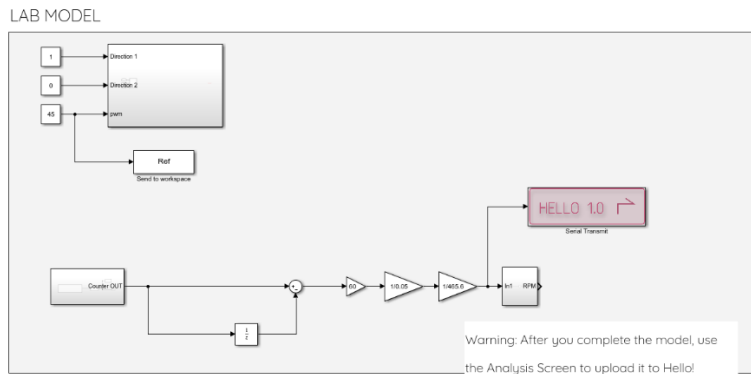
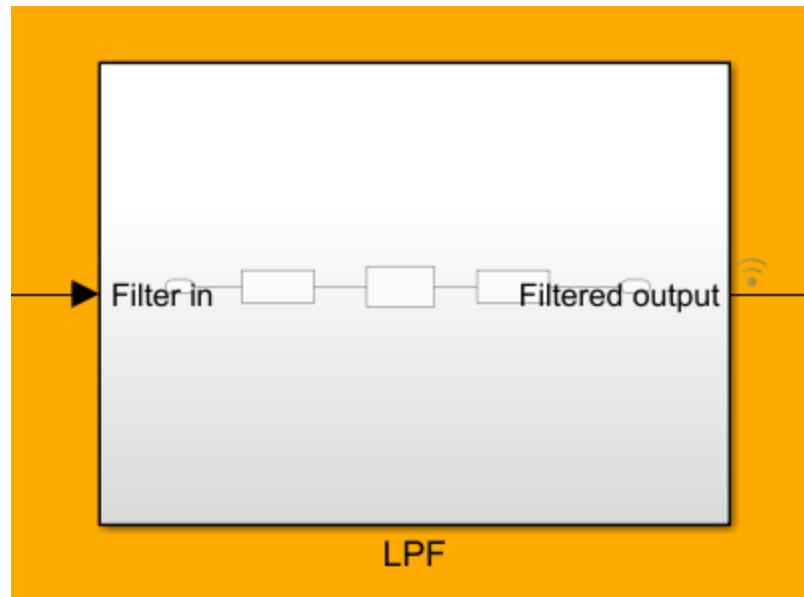

Figure 6
Figure 5: Low-Pass filter
Set the block model as shown in figure 6. Run the model for 3 seconds. Plot the data obtained. Calculate RPM of the DC motor and compare your calculations to the plot obtained data. Comment on how the purpose of gain blocks in the block model.
In Figure 5 is the low-pass filter implemented in Hello.App. The main design of the low-pass filter as in the block model is shown in Figure 6.
- Double click on the block shown in Figure 5